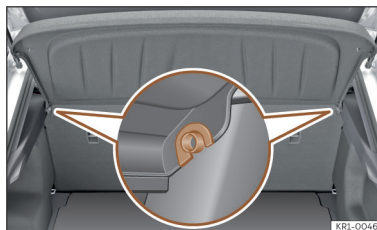

Fig. 166 In the boot: removing and installing the shelf.
- Remove the rear shelf from the side supports >>> **Fig. 166** by pulling it upwards and then take it out.
- Insert the cover horizontally so that the “recess” fits onto the axis of the supports >>> **Fig. 166** and press down until it engages.